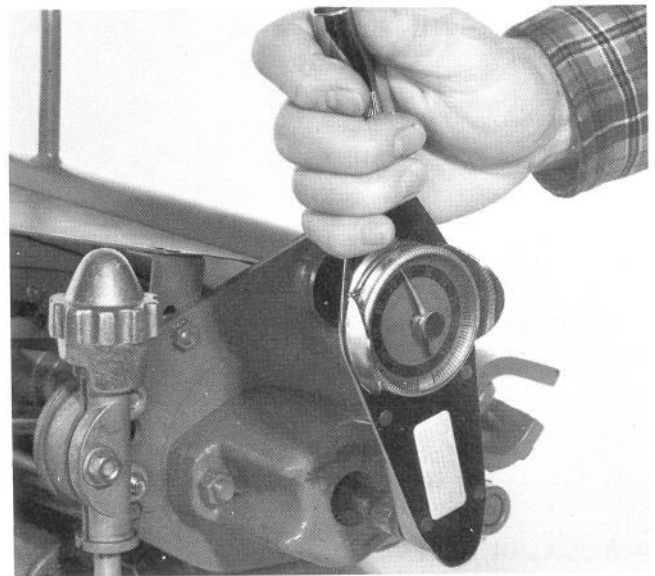

Figure 12
2. The reel bearing drag should be from 7 to 11 inch pounds. This can be measured with a torque wrench (Fig. 12).